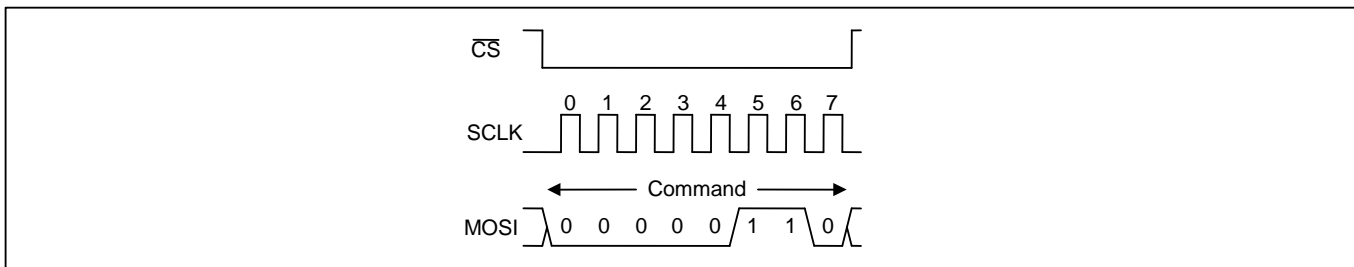
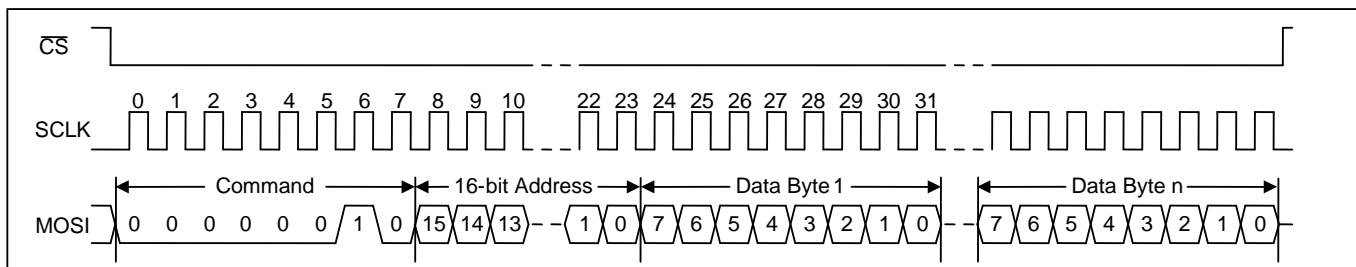

Figure 7 - SPI Write Enable Transaction Functional Timing (ZL30261 and ZL30263 Only)
Figure 8 - SPI Write Transaction Functional Timing
**Register Write Transactions.** The device registers are accessible when  $\overline{\text{ESEL}}=0$ . After driving CSN low, the bus master transmits the write command followed by the 16-bit register address followed by the first data byte to be written. The device receives the first data byte on MOSI, writes it to the specified register, increments its internal address register, and prepares to receive the next data byte. If the master continues to transmit, the device continues to write the data received and increment its address counter. The write transaction is completed when the bus master drives CSN high. See Figure 8.
**EEPROM Writes (ZL30261, ZL30263 Only).** The internal EEPROM memory is accessible when the  $\overline{\text{ESEL}}$  bit is 1. After driving CSN low, the bus master transmits the write enable command and then drives CSN high to set the internal write enable latch. The bus master then drives CSN low again and transmits the write command followed by the 16-bit address followed by the first data byte to be written. The device first copies the page to be written from EEPROM to its page buffer. The device then receives the first data byte on MOSI, writes it to its page buffer, increments its internal address register, and prepares to receive the next data byte. If the master continues to transmit, the device continues to write the data received to its page buffer and continues to increment its address counter. The address counter rolls over at the 32-byte page boundary (i.e. when the five least-significant address bits are 11111). When the bus master drives CSN high, the device transfers the data in the page buffer to the appropriate page in the EEPROM memory. See Figure 7 and Figure 8.